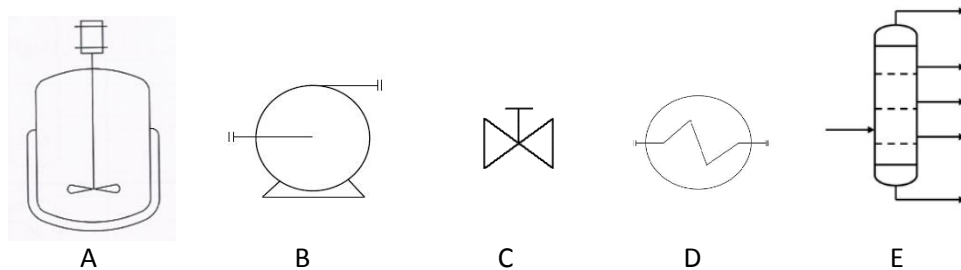

Figure 5: Equipment symbol in P&ID
- (b). Figure 5 (A-E) shows the equipment symbol in Process & Instrumentation Diagram (P&ID). State the equipment name and its function.